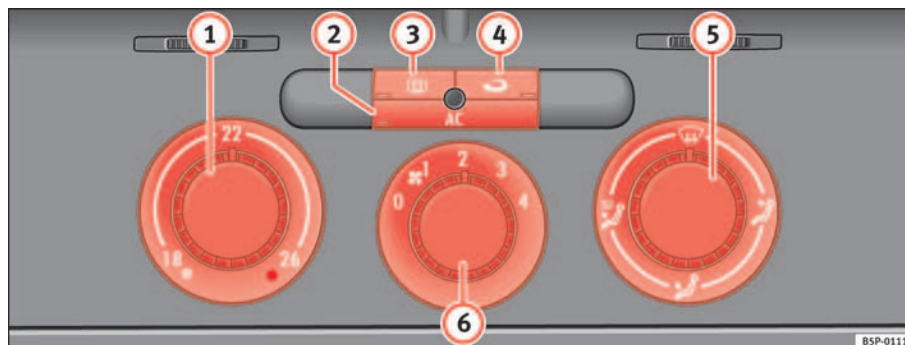

Fig. 122 On the dash panel: Climatic controls
- Using the controls ⇒ fig. 122 ① and ⑤ and the control ⑥ you can set the temperature, air distribution and the air flow.
- To switch a function on or off, press the appropriate button ②, ③ or ④. When the function is activated, the display window in the lower left of the button is lit.
- ① Temperature selector ⇒ page 150
- ② Button [AC] – cooling system on/off ⇒ page 150
- ③ Button [] – Rear window heating. The heating will be switched off automatically approximately *20 minutes* after switching on. It can also be switched off beforehand by pushing the button.
- ④ Button [] – Air recirculation mode ⇒ page 151
- ⑤ Air distribution control ⇒ page 150
- ⑥ Blower switch. There are four speed settings for the air flow. The air flow should always be set at the lowest speed when driving slowly.
- Switch on the air conditioner using the button ⇒ page 149, fig. 122 .